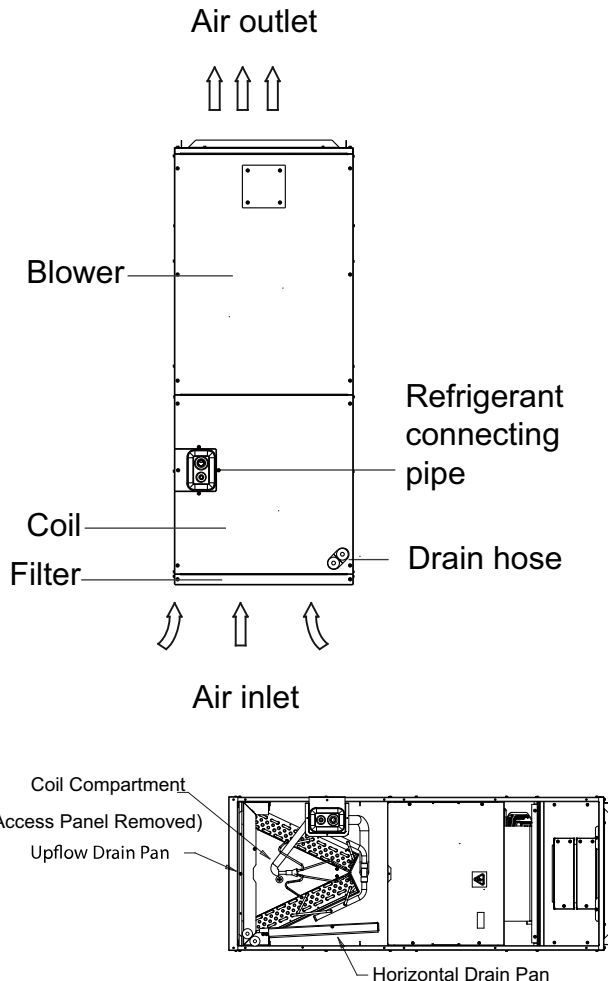

Fig. 15 —Indoor Unit Representation
- Illustrations in this manual are for explanatory purposes. The actual shape of your indoor unit may be slightly different. See Fig. 15. The actual shape shall prevail.
- This display panel on the indoor unit can be used to operate the unit in case the remote control has been misplaced or is out of batteries. See Fig. 15.